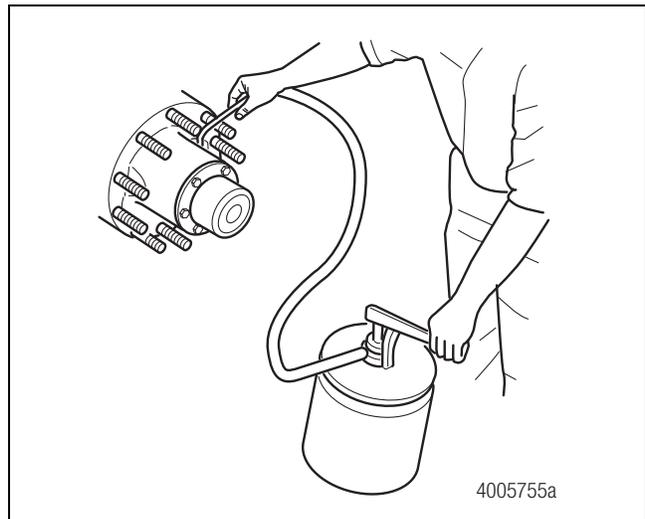

Figure 5.12
2. Fill the hub with the original equipment manufacturer's recommended amount of grease or semi-fluid lubricant. The grease must be room temperature, or 60°F (15°C). Figure 5.12.